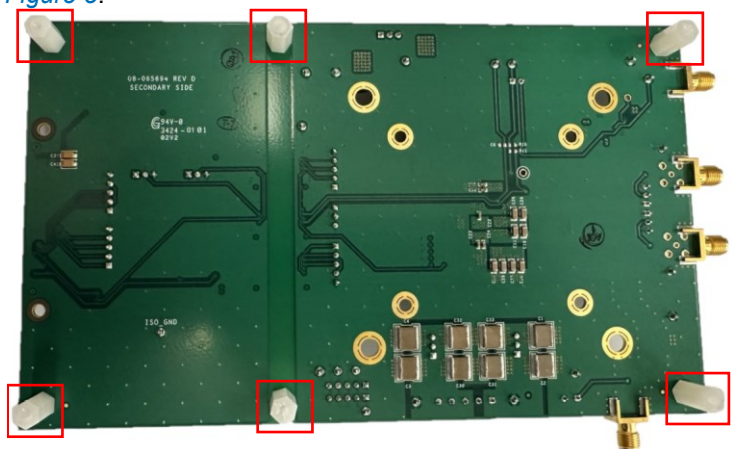

Figure 5. Back of Evaluation Board with Plastic Standoffs
2. Secure the six plastic standoffs (PN 1902C) to the back of the board with six plastic screws (PN NY PMS 440 0025 PH), as seen in Figure 5.